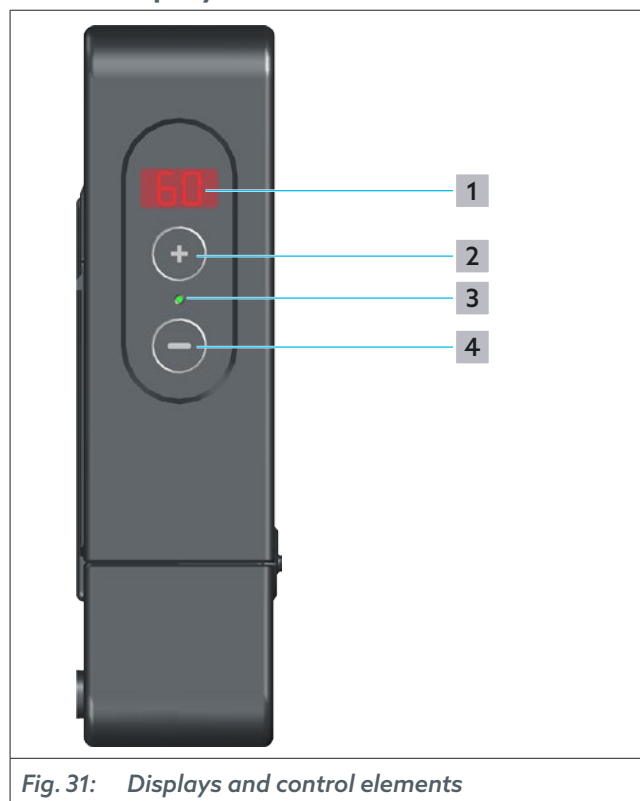

Fig. 31: Displays and control elements
- To view the values of the temperature sensors (S1, S2, S3), press and hold the "+" and "-" key for 3 seconds. The individual values appear one after the other on the display (position **1** in Fig. 31 on page 30).
The hot water setpoint temperature and status display (position **1** in Fig. 31 on page 30) shows the setpoint temperature and error codes.